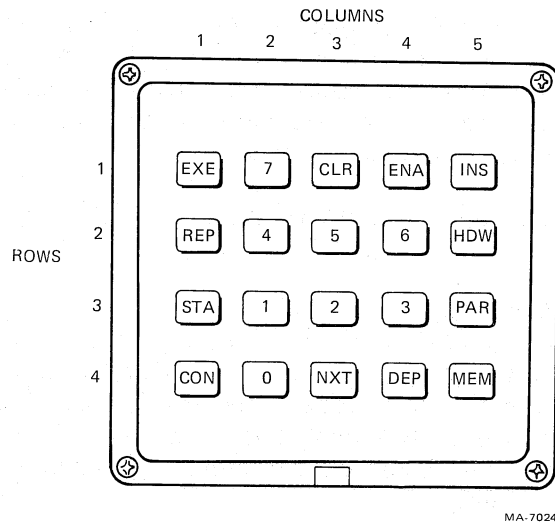

Figure 3-15 TM78 Maintenance Keypad
5. Perform the TM78 maintenance keypad tests. Press each key (except ENA) independently in order to produce its keypad matrix location in the display. The second LED digit indicates the column number and the fifth LED indicates the row number. The other LEDs display hyphens. Figure 3-15 illustrates the keypad with the assigned column and row numbers. When no key is pressed, the display reverts to the rotating character test.